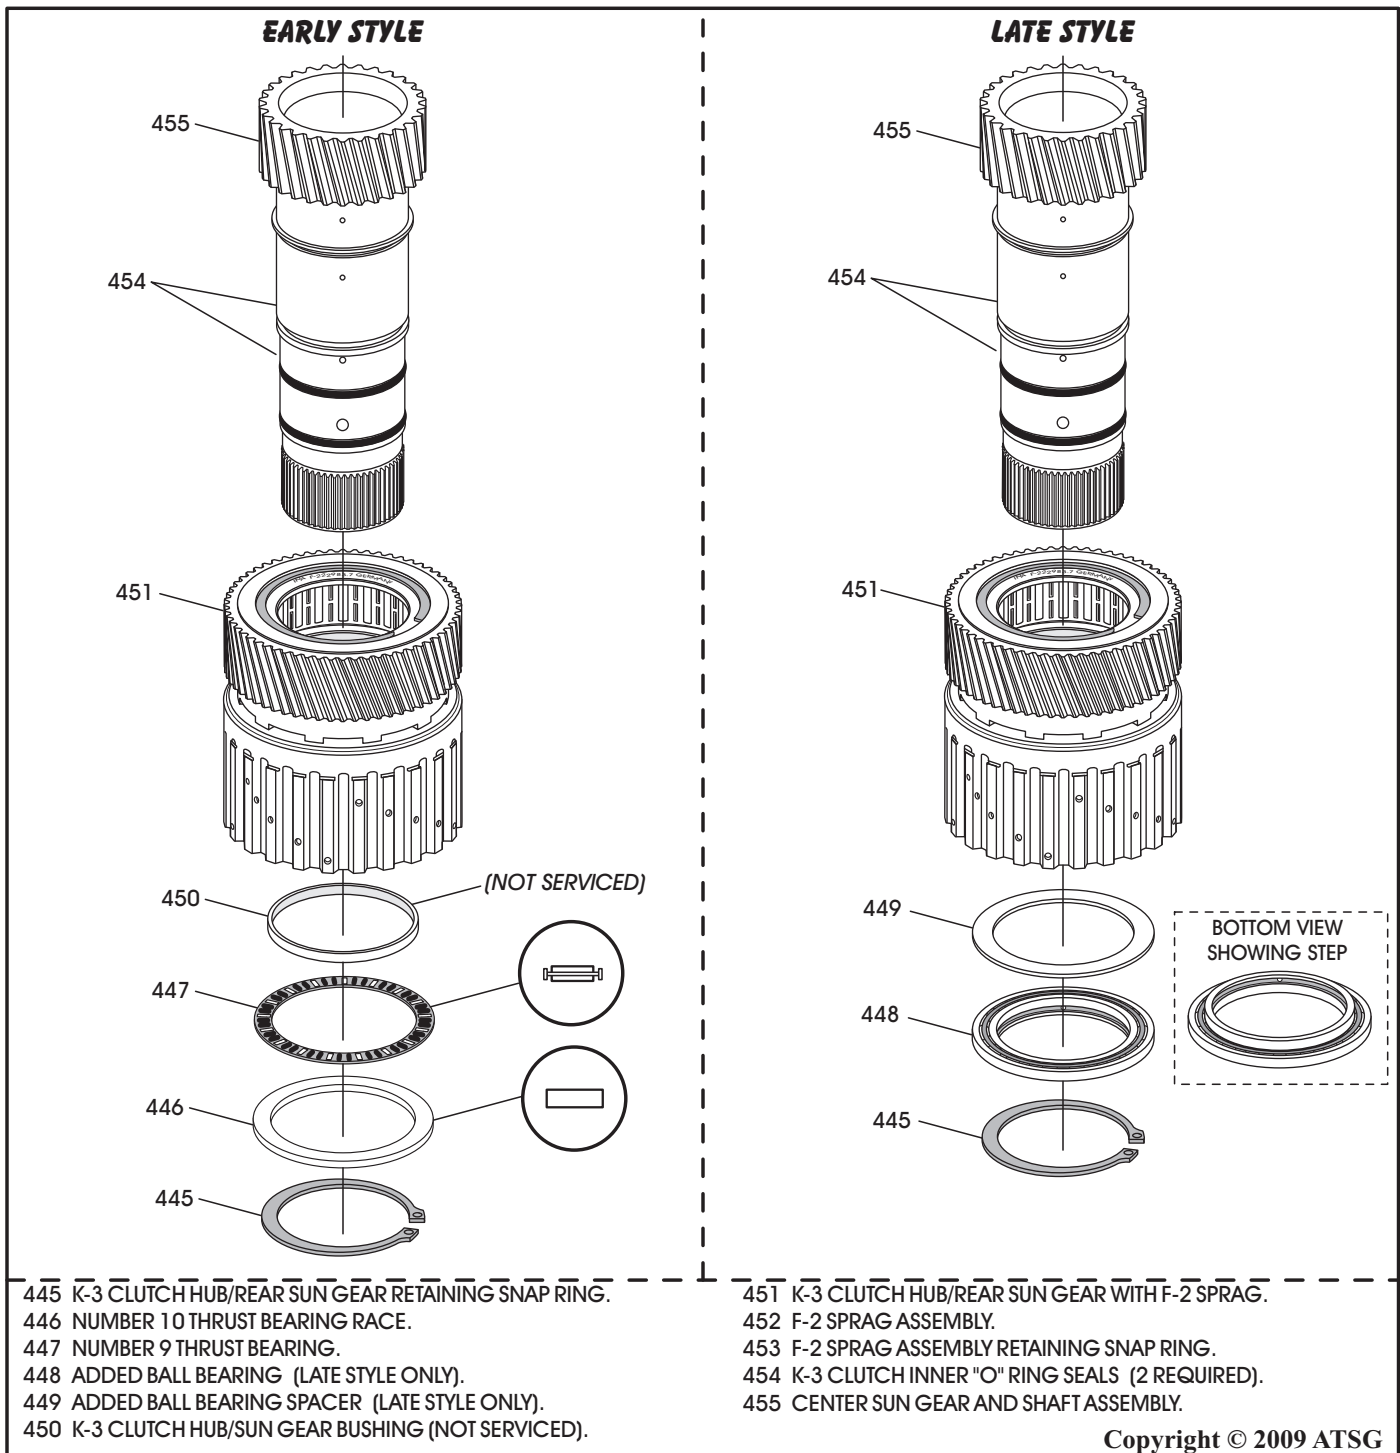

Figure 124
SEE FIGURE 124 FOR EXPLODED VIEW AND UPDATES
2. The rear sun gear changed with the bushing being replaced with a ball bearing, as shown in Figure 124.
3. This allowed the elimination of the number 9 thrust bearing and number 10 thrust bearing race, as shown in Figure 124.